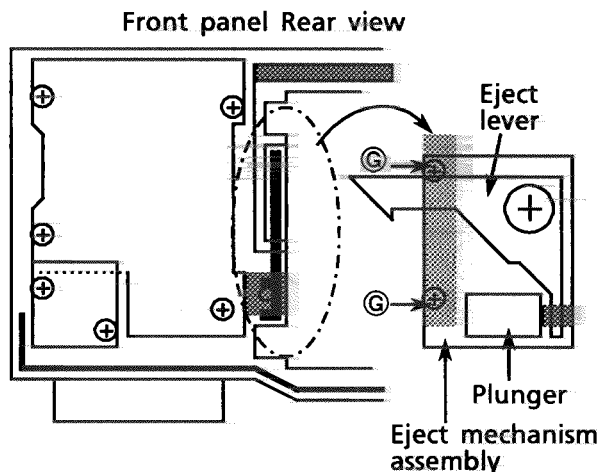

Fig.6 Rear view
2. Remove the 2 screws (G) the cassette mechanism assembly side. (Fig.6)